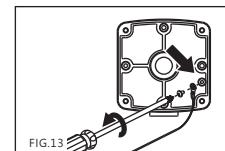
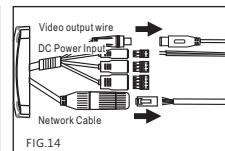

FIG.13
FIG.14
- C. Attach the safety cable to the hole at the bottom of the junction box (FIG.13), and connect the Ethernet cable, video cable, and power cable to the camera's RJ-45 connector, video output, and power input respectively (FIG.14). Please refer to "1." for more wiring instructions.
- C. 先將安全鎖繩附到接線盒底座的固定孔上 (FIG.13)，再把網路電纜線和電源線接上攝影機的RJ-45網路插座、視頻輸出及電源輸入端 (FIG.14)。線組安裝請參閱第1項的說明。